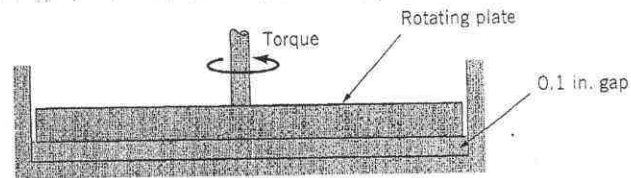

FIGURE P1.89
1.89 A 12-in.-diameter circular plate is placed over a fixed bottom plate with a 0.1-in. gap between the two plates filled with glycerin as shown in Fig. P1.89. Determine the torque required to rotate the circular plate slowly at 2 rpm. Assume that the velocity distribution in the gap is linear and that the shear stress on the edge of the rotating plate is negligible.